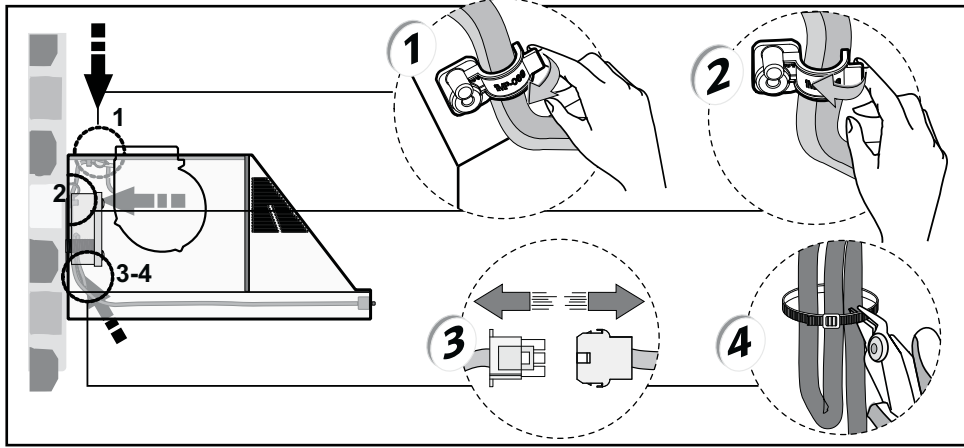

Fig.2
- A. If hood installation is used with the air outlet Fig.1B or Fig.4B, the wires set-up in the relevant wiring harness must be released by pulling the lever outwards, as indicated in figure 2, phase 1-2.
- B. Disconnect the 6-way quick coupling of the motor located inside of the hood, as show in figure 2. - phase 3.
- C. The wires positioned inside of the hood are fasted with a cable tie. Cut the cable tie as shown in figure 2 - phase 4.
Once transformation operations have been completed, reassemble the components following the steps in reverse (Fig.2).
- If your requirements are the use of the air outlet in the rear part of the hood (carry out all phases shown in figure 2), remove the screws I (Fig. 4.1) that fix the motor bracket Y and turn the entire motor unit and position it as indicated in Fig.4.2. Put the motor bracket Y back in its seat and fix it with the previously removed screws I.